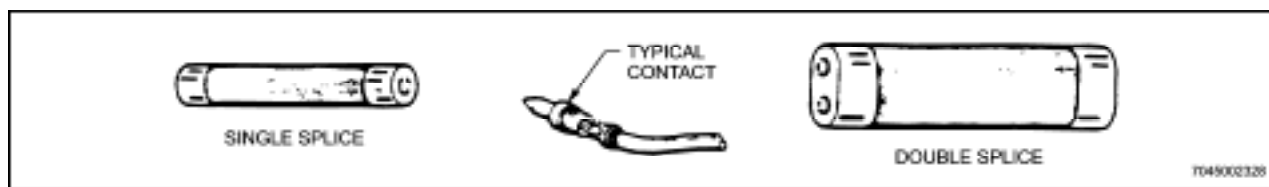
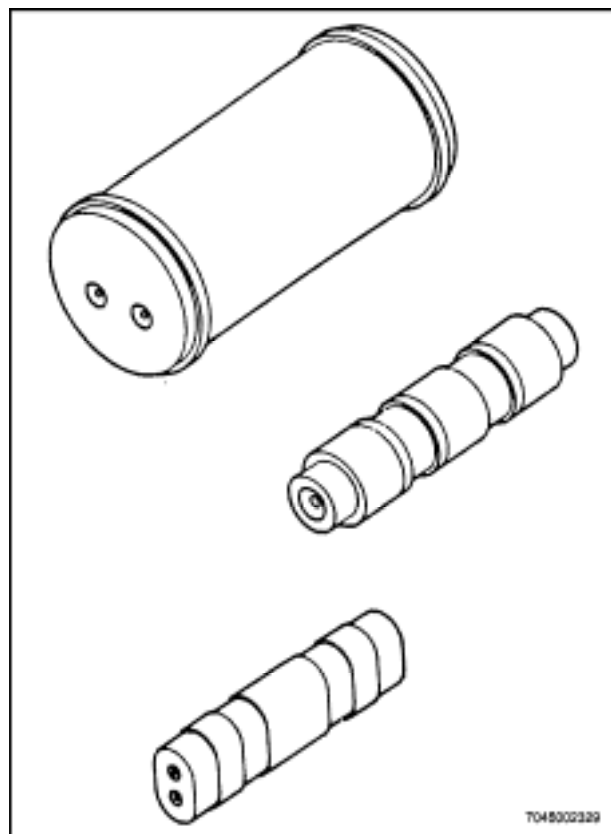

Figure 4-38 Removable Contacts and Wire Splices Series I
Figure 4-39 Removable Contacts and Wire Splices Series II
- c. Wire splices, removable contact. (See Figure 4-38 and Figure 4-39.)
- b. Wire splices, removable contact, non-electronic and electronic. (See Figure 4-38 and Figure 4-39.)